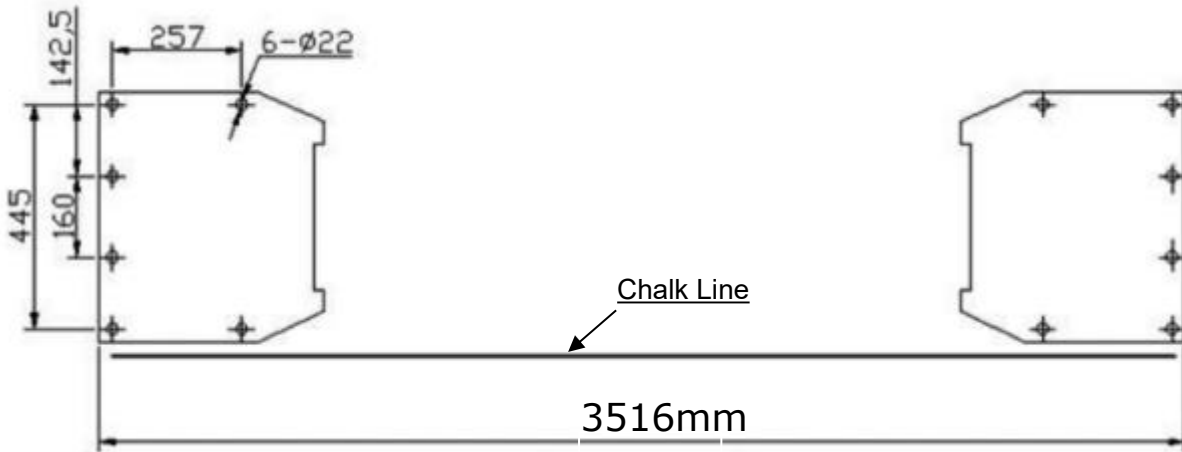

Fig. 10
B. Use a carpenter's chalk line to establish installation layout of base plate (See Fig. 10).